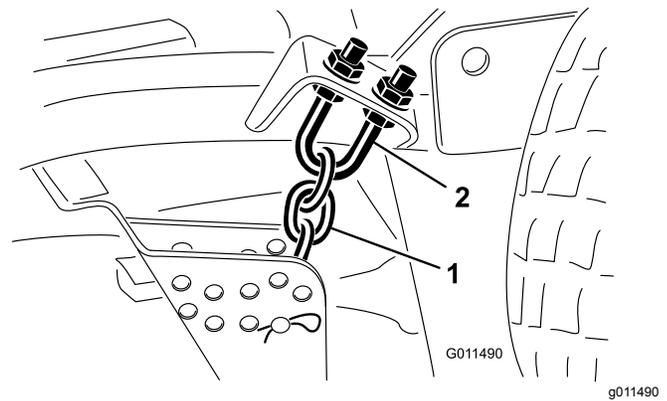

Figure 108
1. Loosen the jam nuts at the top or bottom of the height-of-cut chain U-bolt (Figure 108).